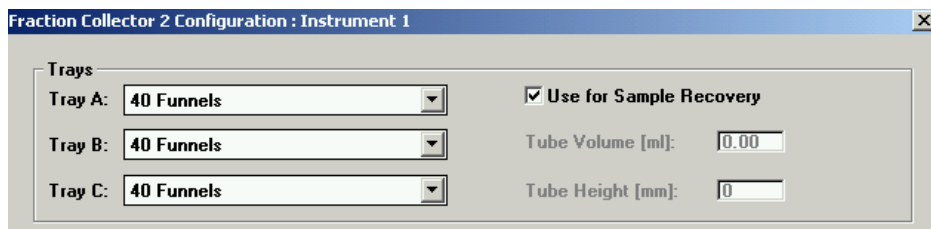

Figure 34 Sample Recovery Fraction Collector
- The preferred recovery strategy is to install multiple fraction collectors in your LC systems and use the last of those fraction collectors for recovery. This recovery fraction collector can be selected in the Configuration dialog box as displayed in Figure 34. The fourth fraction collector in your systems will always be used for sample recovery. Also read “Configuring multiple fraction collectors” on page 50.